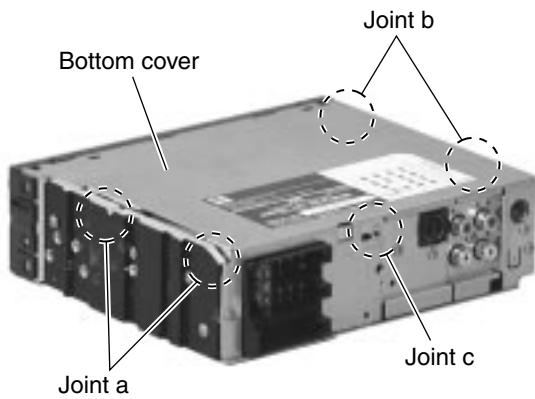

Fig. 3
■ Removing the cassette guide (See Fig.3)